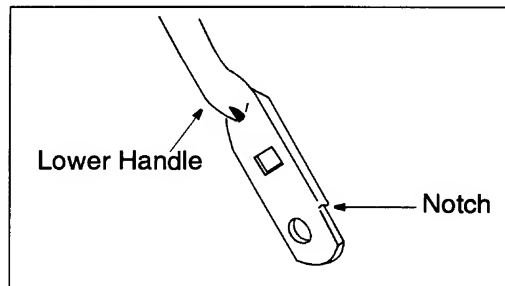

Figure 7
- Turn the lower handle around so the notch on the bottom of the lower handle is facing forward as shown in Figure 7. Reassemble, placing the bottom holes in the handle over the weld pins in the handle mounting bracket.